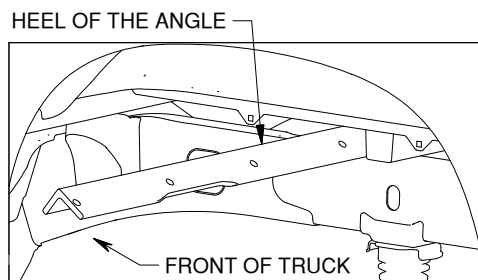
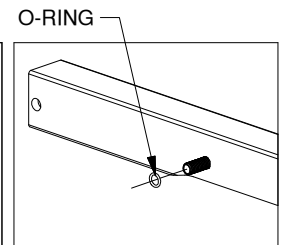

Figure B1: View looking into wheel well.
Figure B2.
1. **Install front cross member.** Starting in the driver side wheel well, orient the front cross member (angle iron) so that the heel of the angle is up and the flange with the holes is towards the back of the truck, see Figure B1. Pass the cross member between the bed and the frame until it rests on the passenger side frame. Roll the cross member so that the flange with the holes is vertical. Install a 1/2" X 1-1/2" cap screw into the second hole from the driver side of the cross member with the threads towards the back of the truck. Install the rubber O-Ring onto this bolt to keep it in place during installation, See Figure B2. Push the passenger side of cross member forward until it hits the shock bracket. Push the driver side of the cross member forward to make extra room for the center section to be installed.